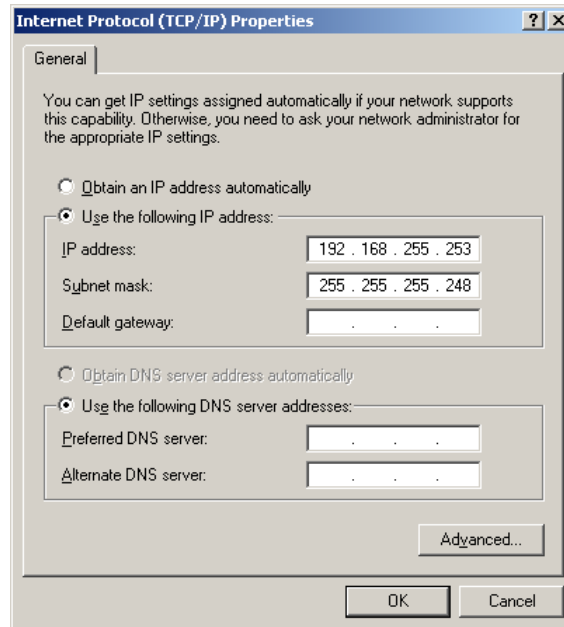

Figure 1.5-3 Internet Protocol (TCP/IP) Properties dialog box
The “Internet Protocol (TCP/IP) Properties” dialog box (Figure 1.5-3) will appear.
- (5) Set the IP address and subnet mask just as shown on the “Internet Protocol (TCP/IP) Properties” dialog box (Figure 1.5-3).